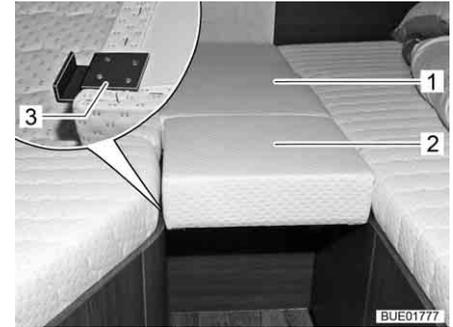

Fig. 140 Lying surface
- Place the folded additional cushion (Fig. 140,1) at the very rear of the support between the single beds and unfold (Fig. 140).
- Hook the additional cushion (Fig. 140,2) with the four holders (Fig. 140,3) into the panels of the single beds such that a closed lying surface is created (Fig. 140).